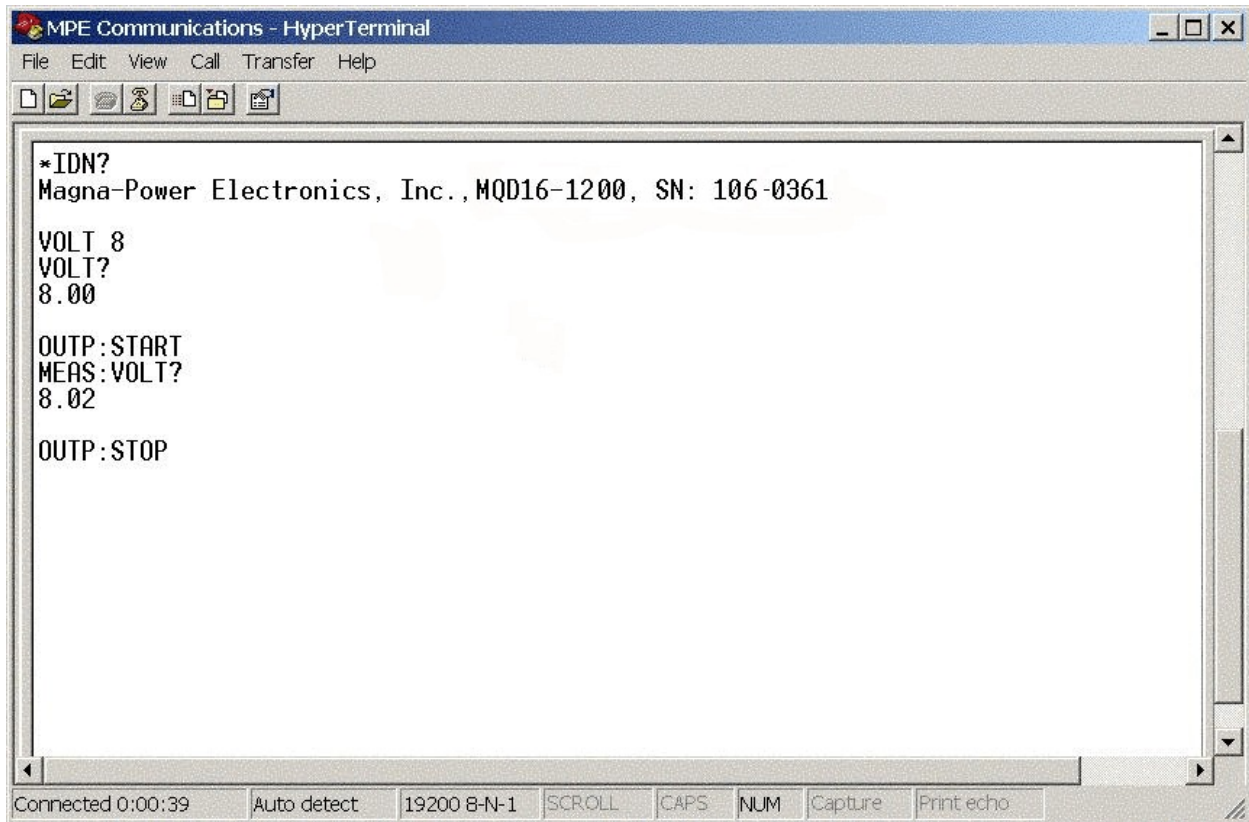

Figure 4.1 RS-232 Communications using Microsoft Windows (tm) HyperTerminal
7. As illustrated in figure 4.1, the returned data will display the following: “Magna-Power Electronics, Inc., MQD16-1200, SN: 106-0361” where the model and serial number may be different depending on the unit being tested.